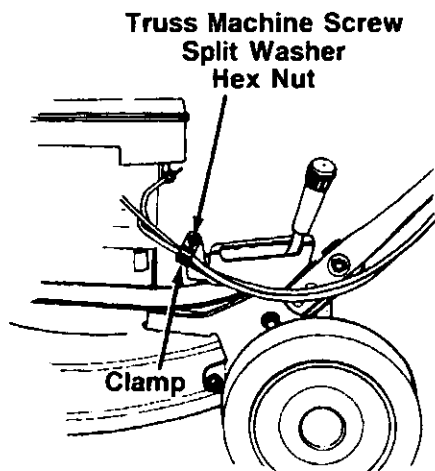

FIGURE 8.
2. Attach the cable clamp to the left hand wheel bracket assembly as shown in figure 8, using the truss machine screw, 1/4" split washer and hex nut.